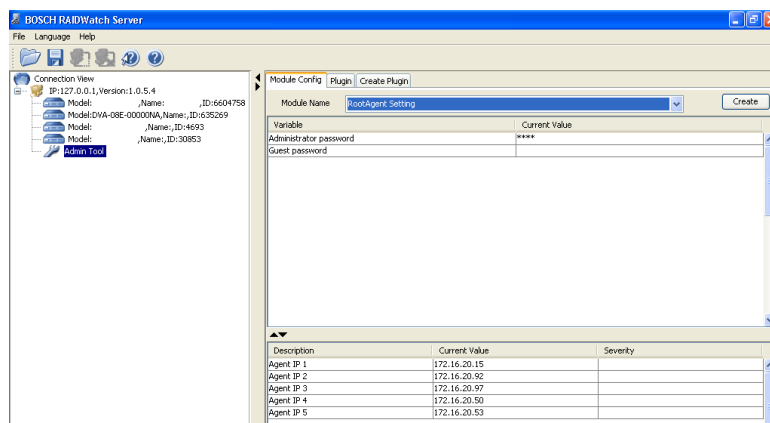

Fig. 4.2 Bosch RAIDWatch Server Window
3. Click on *Bosch RAIDWatch Server* to activate the Bosch RAIDWatch Server window as shown in *Figure 4.2*. The Bosch RAIDWatch Server program allows you to configure the following items: